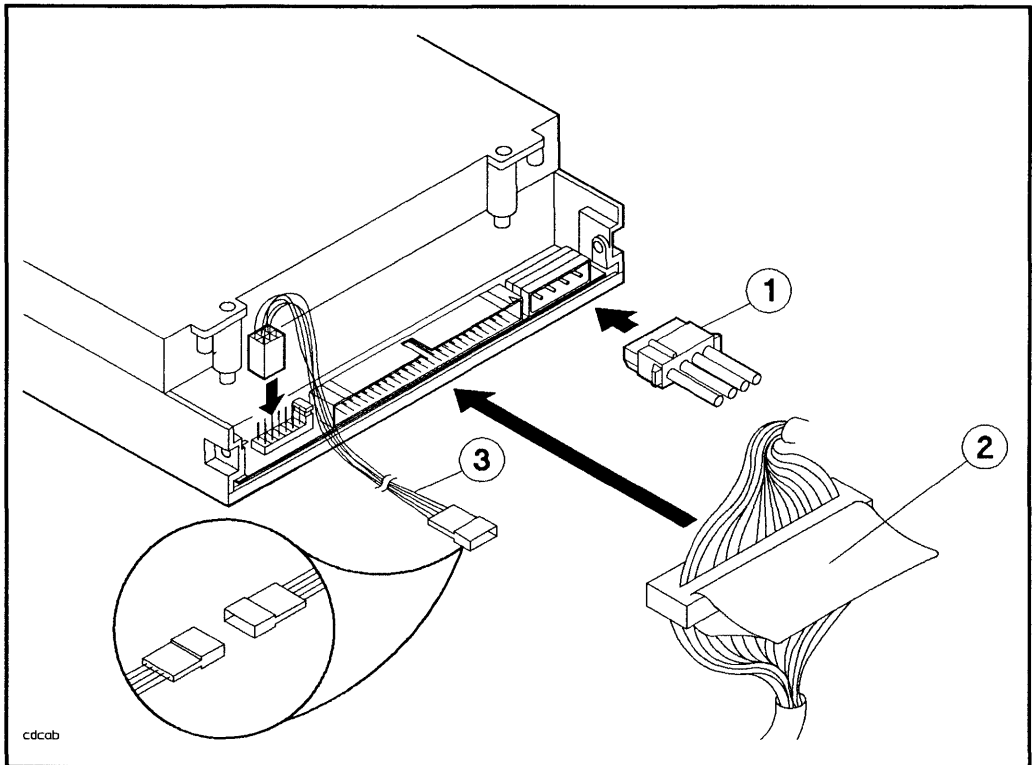

Figure 6-6. Connecting Cables to a CD-ROM Drive
On some older mass storage systems (Models 330D/S and 660D/S), the rear panel SCSI address switches are for hard disk drives only. For this reason, the device in your upgrade kit is shipped with necessary address jumpers or DIP switches installed. If you do not have a Model 330D/S or 660D/S mass storage system, these device address jumpers or DIP switches are not needed and can be removed. Connect the address cable in their place as shown in Figure 6-6.
1. Connect the appropriate address cable to the SCSI address cable on the drive (see Figure 6-6). The address cables in the mass storage system are numbered according to slot number.
2. Connect the internal SCSI cable to the drive (see Figure 6-6).
3. If you are installing only one CD-ROM drive, connect only one of the split ends of the dc dual power cable to the drive (see Figure 6-6).